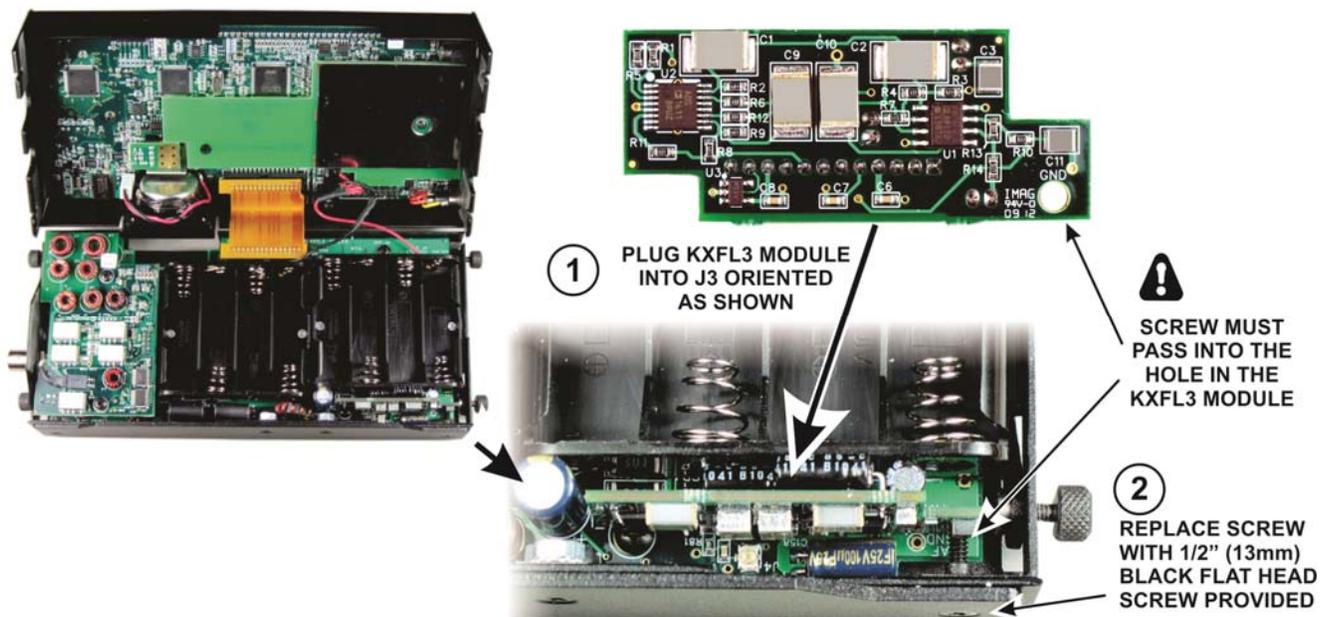

Figure 1. Installing the KXFL3 Module.
- Taking ESD precautions, remove the KXFL3 and plug it into J3 on the KX3 RF board as shown in Figure 1. The screw is there only to ensure the KXFL3 module cannot be knocked out of its socket by rough handling of the KX3. It does not provide a ground return or other function.